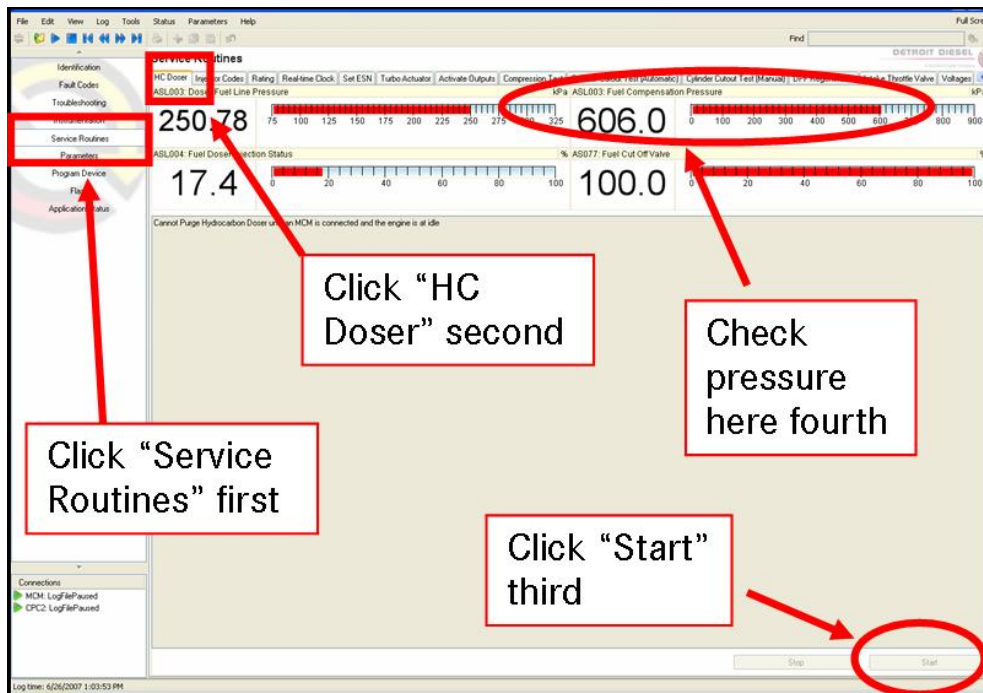

Figure 9 – DDRS 7.0 “HC Doser” Service Routine
3. Start a hydrocarbon (HC) doser purge service routine by doing the following:
- b. Make sure the transmission is in neutral and the parking brake set (ON).
- c. Using DDRS 7.0, attach the computer to the vehicle. Click on the “Service Routines” button on the left side of the screen, click on the “HC Doser” tab near the top. (The HC Doser is also known as the Fuel Doser). See Figure 9.